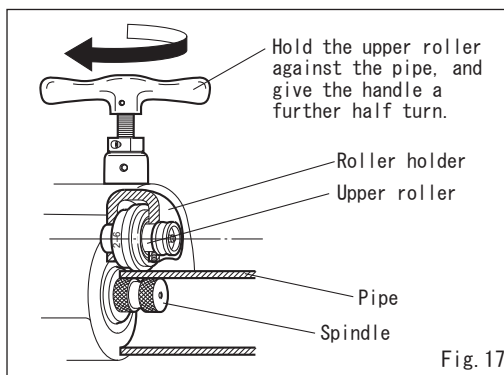

Fig. 17
- 1) Turn the handle clockwise to lower the roller holder, and allow the upper roller to come into slight contact with the pipe. Further, give the handle a 1/2 turn to the handle to bring the pipe into close contact with the spindle. (Fig. 17)